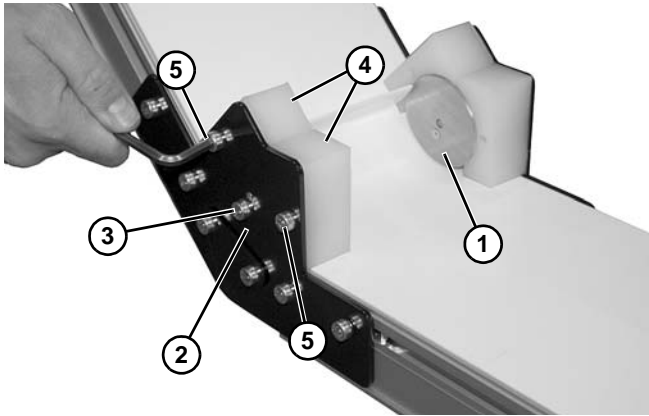

Figure 70
5. If equipped with a lower knuckle, install roller bearing assembly (**Figure 70, item 1**) into knuckle plate (**Figure 70, item 2**) with screws (**Figure 70, item 3**) on both sides of conveyor.
6. Install guards (**Figure 70, item 4**) with screws (**Figure 70, item 5**) on both sides of conveyor.